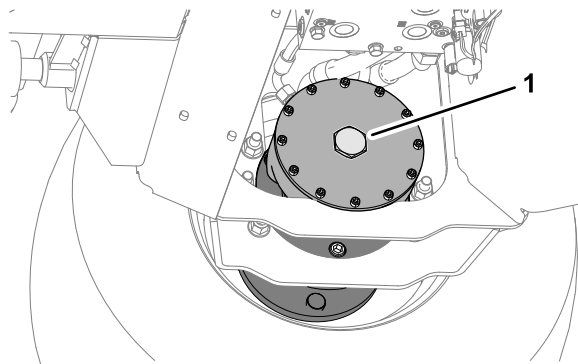

Figure 44
6. At the right, front wheel motor brake assembly remove the hex plug (Figure 44).